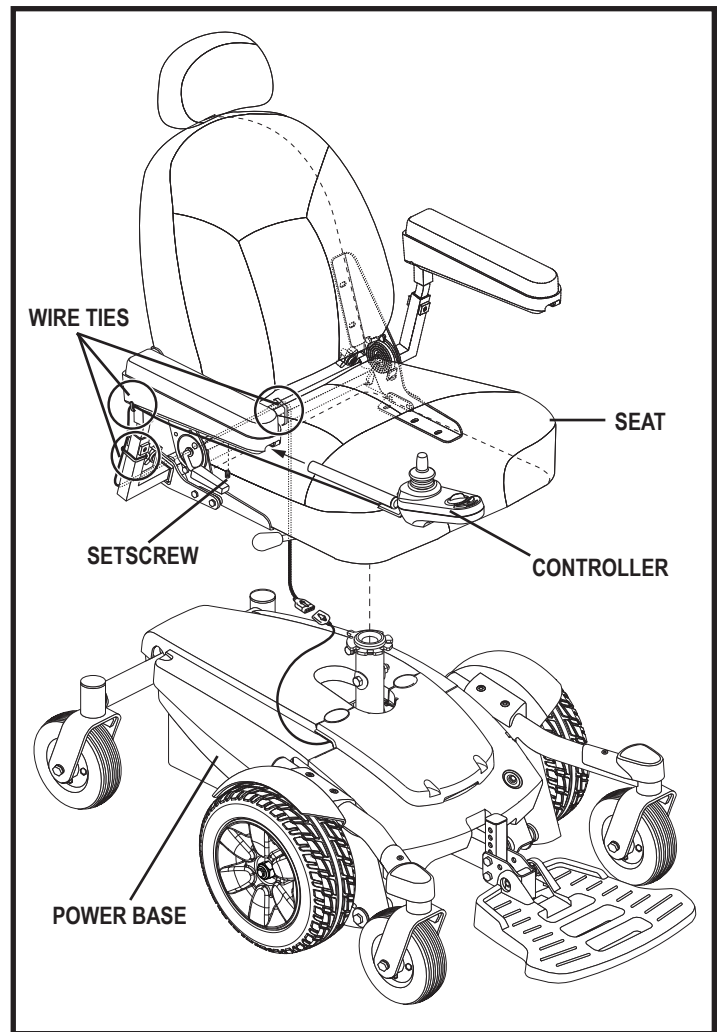

Figure 6. Seat and Controller Assembly
The electrical components are located either on or inside the power base. The main circuit breaker is located on the side of the power base. The power module is located under the front cover. See figure 6.
1. Slide the seat down onto the power base. See figure 6.
2. Install the controller into one of the armrests. Tighten the setscrew with the supplied hex key. See figure 6.
3. Lift the armrest straight up, then route the controller harness and secure with wire ties as shown in figure 6.
9. Route the controller harness along the seat frame and secure with wire ties. See figure 6.